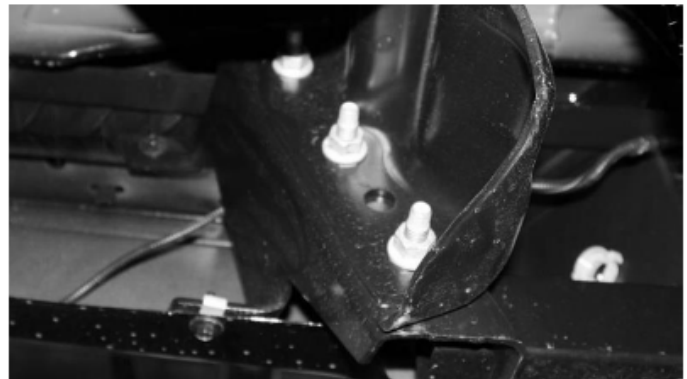

Figure 1
5. Remove the seven (7) plastic Christmas tree plugs holding the harness to the inside of the bumper.
7. Using a 10mm socket wrench, remove the six (6) bolts (3 per side) holding the factory bumper to the receiver hitch. (Figure 1)